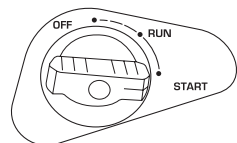

Fig. 3
1. The generator is supplied with disconnected battery. When using the generator for the first time, open the maintenance door and connect the battery line (fig. 3). For long-term storage of generator, disconnect the battery line (for models KS 5500iES ATSR, KS 5500iEG S).
The generator is supplied with disconnected battery. When using the generator for the first time, open the maintenance door and connect the battery line (fig. 3). For long-term storage of generator, disconnect the battery line (for models KS 5500iES ATSR, KS 5500iEG S).